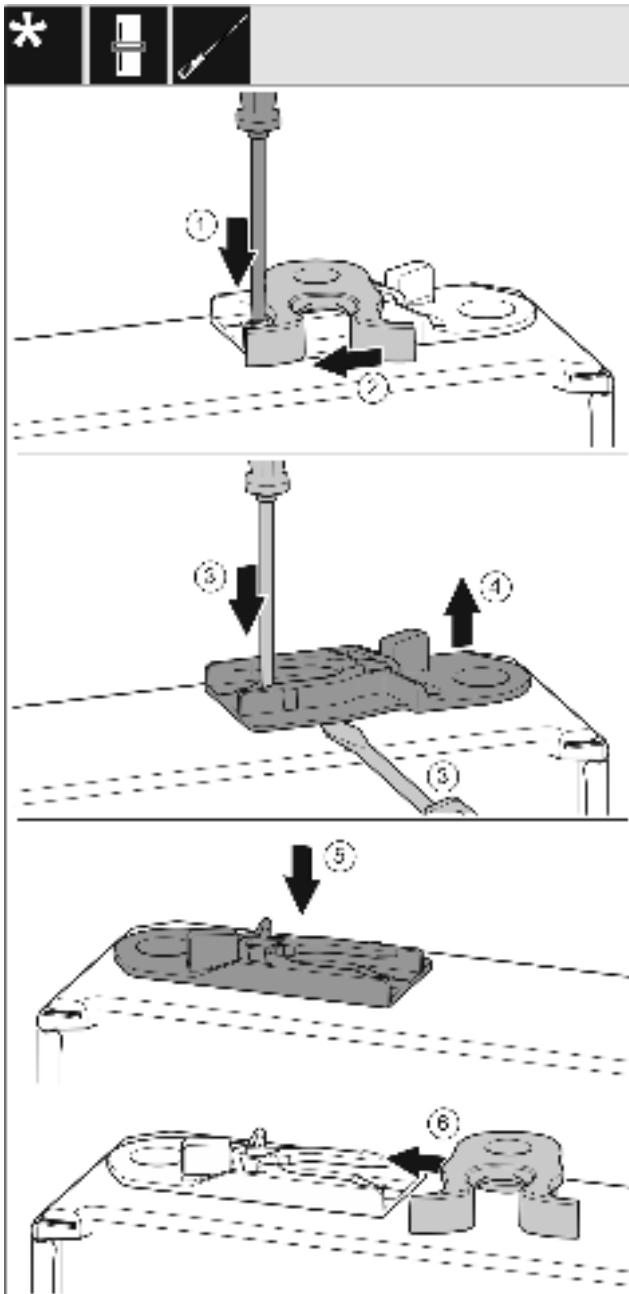

Fig. 19
- Underside of door faces upwards: Turn the door. Fig. 19 (1)
- Push the lug downward with a slotted screwdriver. Fig. 19 (2)
- Pull the door latch out of the guide. Fig. 19 (3)
- Pull out the guide bush: Press the lug with a slotted screwdriver and, at the same time, insert the slotted screwdriver under the guide bush. Fig. 19 (3, 4)
- Slide the guide bush included in the scope of supply to the other side of the housing. Fig. 19 (5)
- Push the door latch into the guide. Fig. 19 (6)